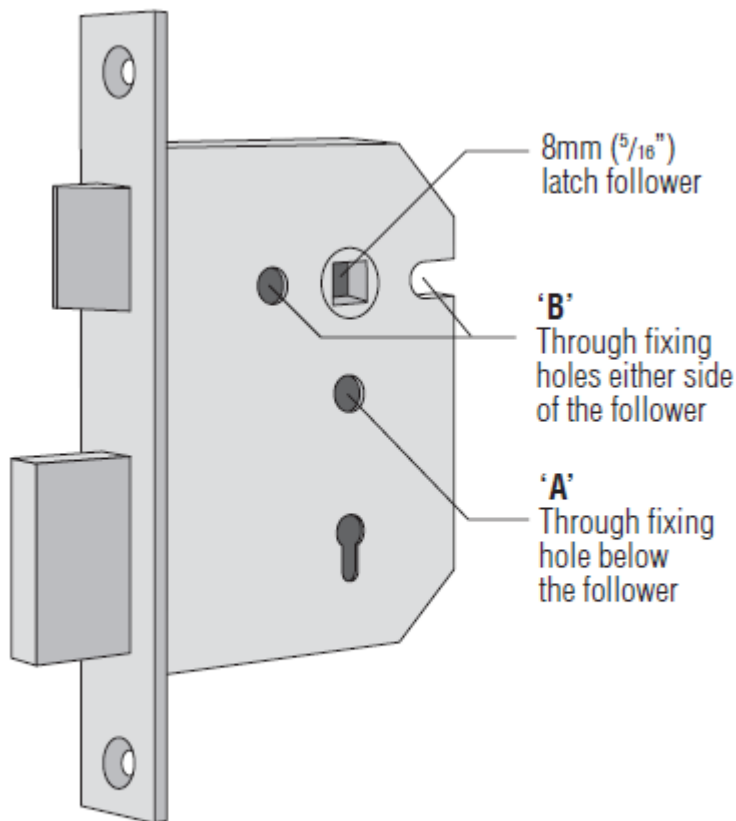

FIGURE 1 - Lock case
See figure 1 below and confirm that your lockcase is compatible with the CL500/CL505 lock plates.
If your lock case has a hole below the follower (Figure 1 'A'), proceed as follows:
- Remove blue handing screw from position 'R' (Fig 1).